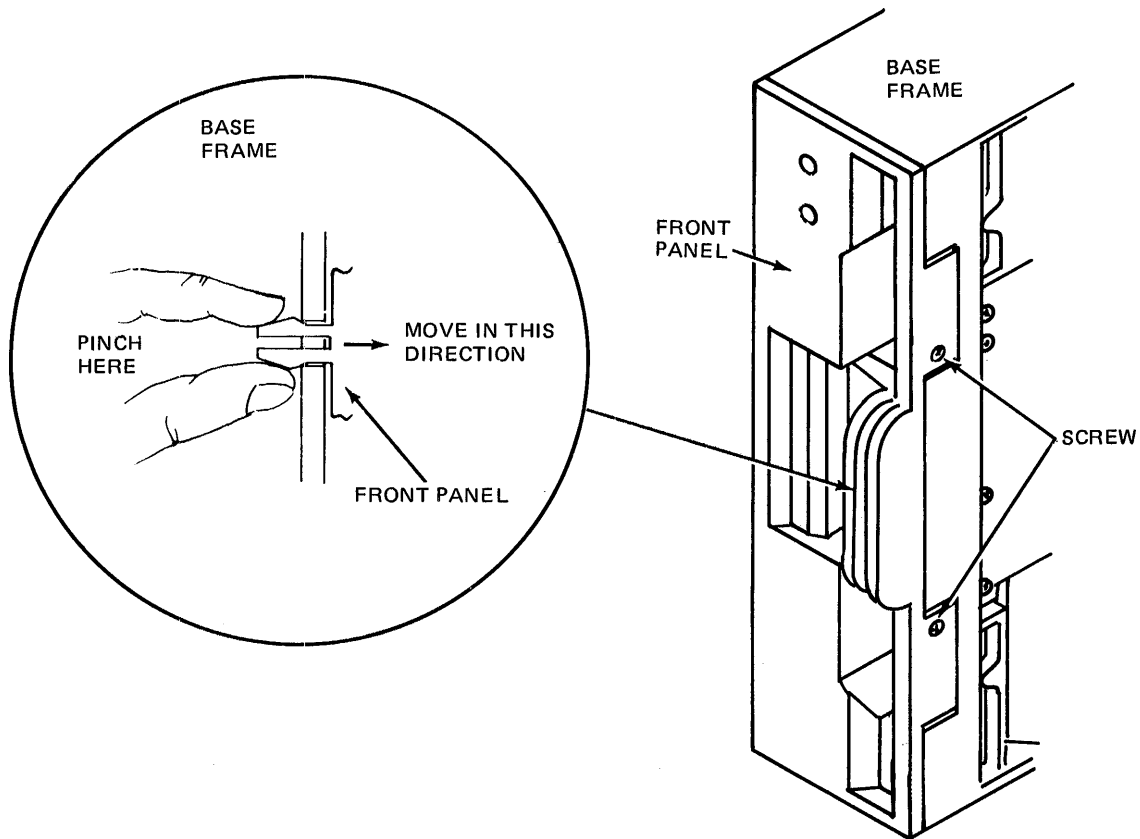

Figure 4-16 Removing the Front Panel
- a. Remove the two screws that fasten the front panel to the base frame (see Figure 4-16).
- b. Pinch the two panel latches (see Figure 4-16) and remove the front panel.